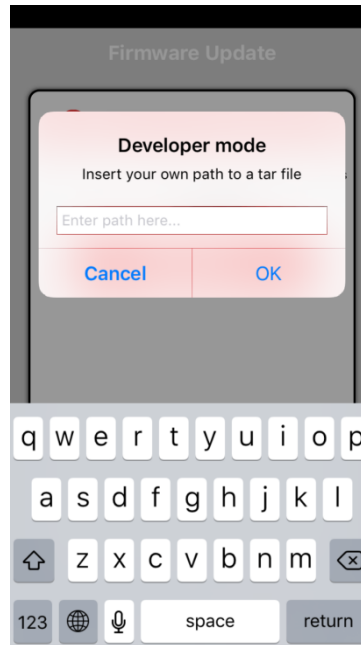

Figure 26. Mobile App Private OTA Repository
- Alternatively, users may also modify this link by pressing and holding the download icon next to the Check for software update button, and filling in the new URL as shown in Figure 26.